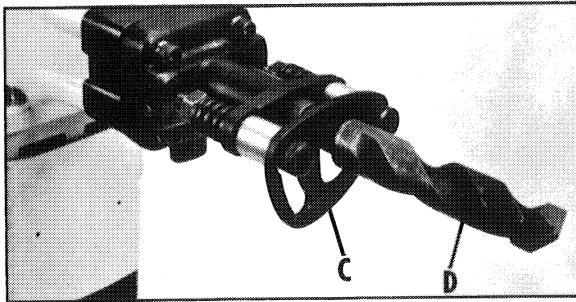

Fig. 3
5. Install bit (D) or other rotating accessory into nose and pivot latch (C) to locked position, as shown in Fig. 3.